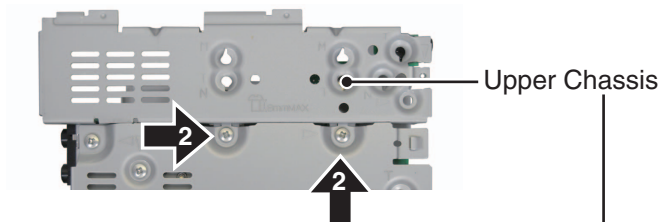

Fig.13
- ➔ 2 Remove the four screws and then remove the Upper Chassis. (Fig.13, 14)